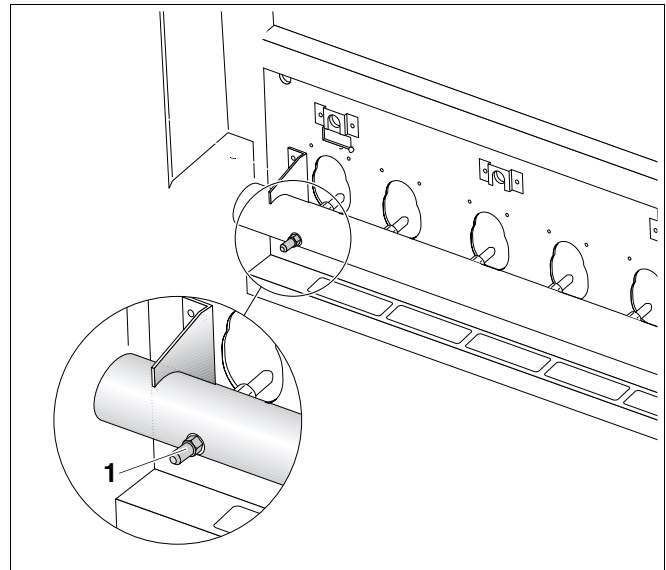

Fig. 26 Checking the nozzle pressure
- Release the plug of the test port on the burner manifold (Fig. 26, **Item 1**) by two full turns, and push on the test hose of the U-tube pressure gauge.
- Switch the ON/OFF switch to "I" (ON).